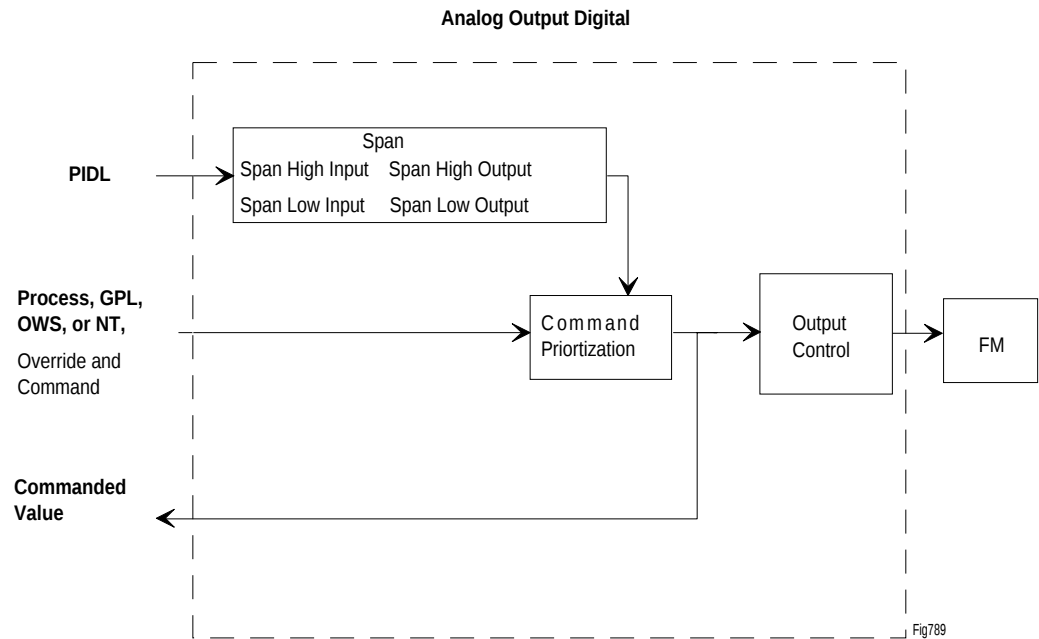

Figure 7: Span Type 0
For an example on setting span limits, let's assume you are setting the span for the example diagrammed in Figure 7. For the heating AOD, define the span attributes as follows:
With the AOD Span Type 0, the signal from the PID Loop is spanned, and then its output is converted to the appropriate signal for the function module. (See Figure 7.) Commands from Scheduling, GPL Processes, the Operator Workstation, or the Network Terminal (NT) are taken and directly converted to the appropriate signal for the function module (in terms of % full scale of the function module range).